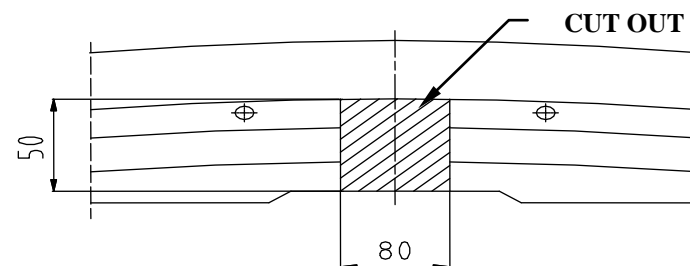

Fig.2.
3. In maked holes put sleevesi  $\varnothing 17$  mm (pos. 8), length = 73 mm.
4. To rear side put base bar of towbar (pos. 1) in that way, so holes pos. A agree to holes for unscrewed reinforcement and screw using bolts M8x35mm (loosely) – pos. 13.
5. Elements (pos. 4 and 5) put to chassis members and rear side and screw using bolts M10x110 mm (pos. 11) and M10x35mm (pos. 12).
6. Assemble masking cover and bumper after cut his fragment 80x50mm – see fig. 2.